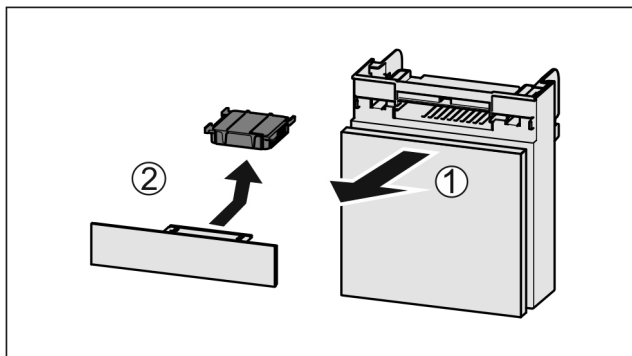

Fig. 35
- ▶ Pull out the compartment Fig. 35 (1).
- ▶ Remove the carbon filter Fig. 35 (2).